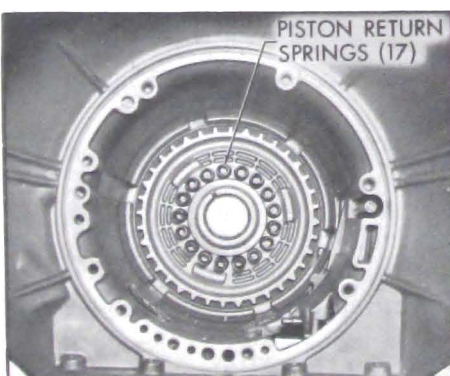

Figure 5-154
6. Remove Tool J-21420-2 being careful that piston return seat does not catch in snap ring groove. Lift off piston return seat and remove seventeen (17) piston return springs. See Figure 5-154.